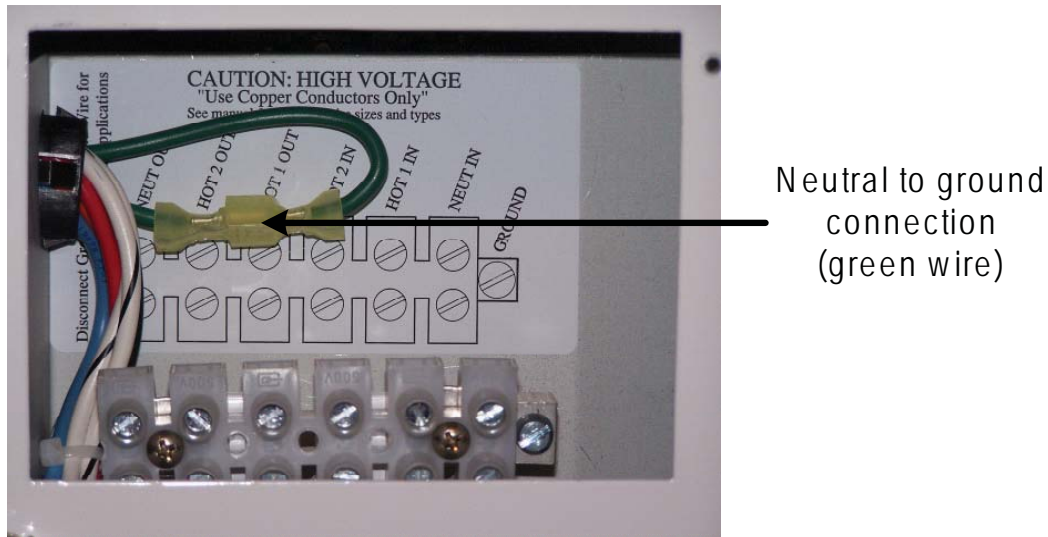

Figure 11, AC Wiring Compartment (MS4024 model)
2. At the top of the AC wiring compartment, locate the green wire with the insulated connector (see Figure 11). This connects the neutral and ground inside the inverter.